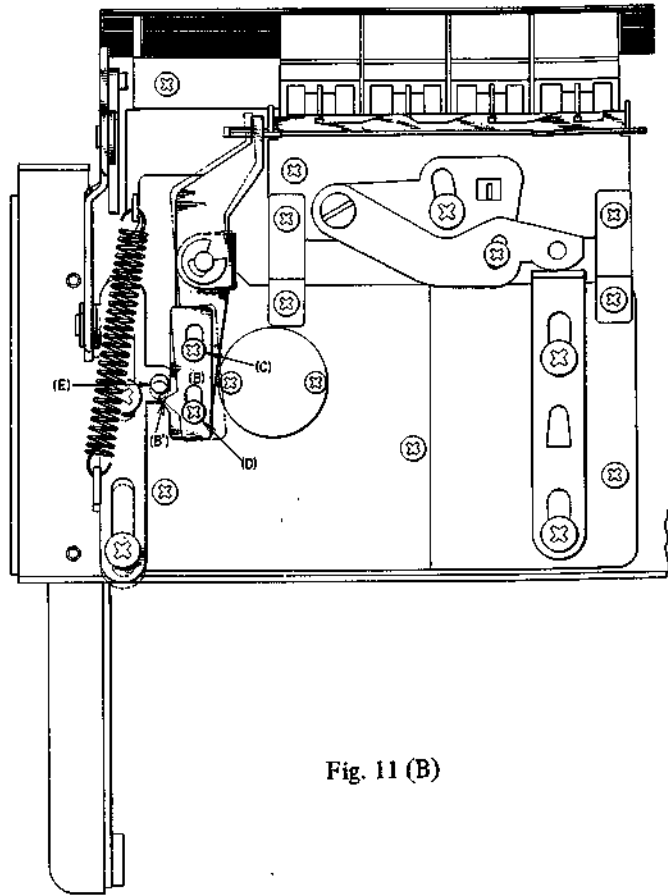

Fig. 11 (B)
(5) ADJUSTMENT OF CASSETTE COVER KEY-BOARD PROTECTION DEVICE (See Fig. 11 (A) (B))